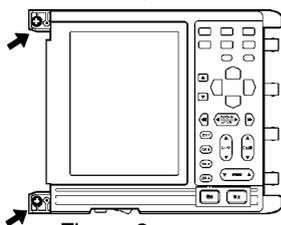

Figure 2
3. Remove the two hidden screws in the cover using a Phillips screwdriver (see Figure 2).